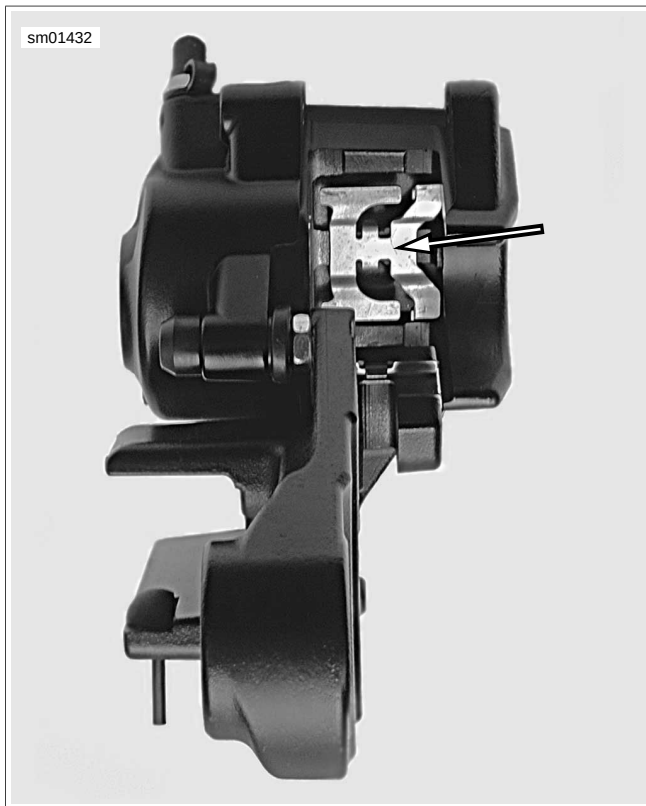

**Figure 1-48. Rear Brake Master Cylinder Reservoir: XL Models**
See Figure 1-48. As the piston is pushed back into the caliper, fluid level may rise higher than the upper fluid level (3) in the reservoir (1). You may have to remove fluid to allow for this.
2. See Figure 1-48. Remove rear master cylinder reservoir cap (2).
- See Figure 1-48. Reservoir cover (5) may be removed from rear brake master cylinder reservoir (1) to more easily verify fluid level in reservoir.
16. See Figure 1-48. If desired, remove rear brake master cylinder reservoir cover (5) by grasping cover and gently pulling it straight away from reservoir (1).
17. Check brake fluid level in master cylinder reservoir. If necessary, add DOT 4 BRAKE FLUID to reservoir until fluid reaches upper fluid level (3).
18. Replace master cylinder reservoir cap (2). Replace reservoir cover (5), if removed.